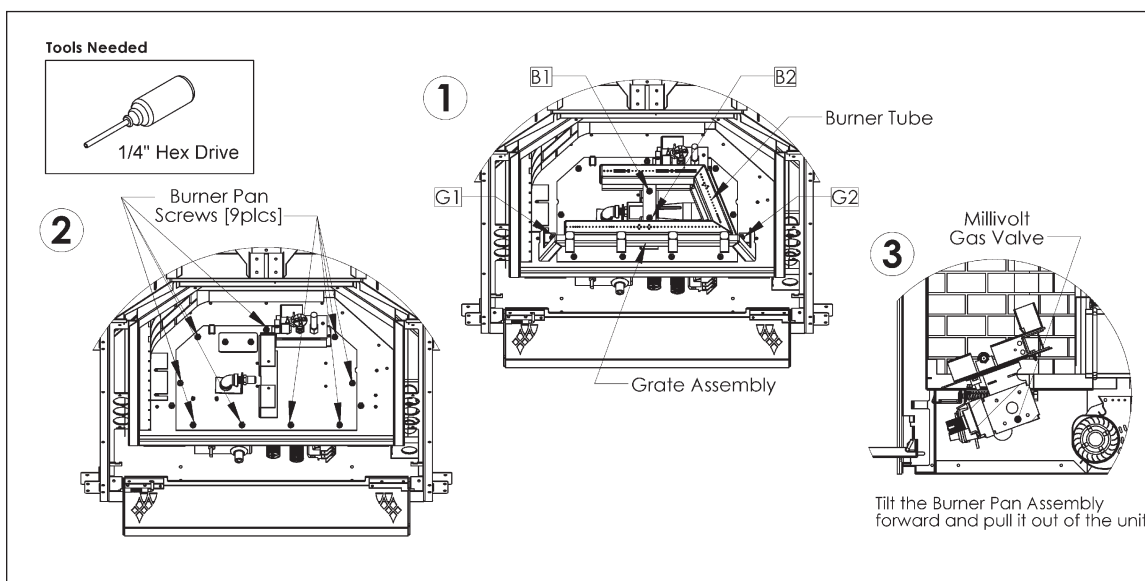

Figure 20 - Burner removal diagram.
1. Remove Glass Door, Logs, Rocks, and Embers. Remove the Grate Bar Assembly by removing the screws located at G1 and G2. Remove the Burner Tube by removing the hold-downs located at B1 and B2. (See Figure 20.)